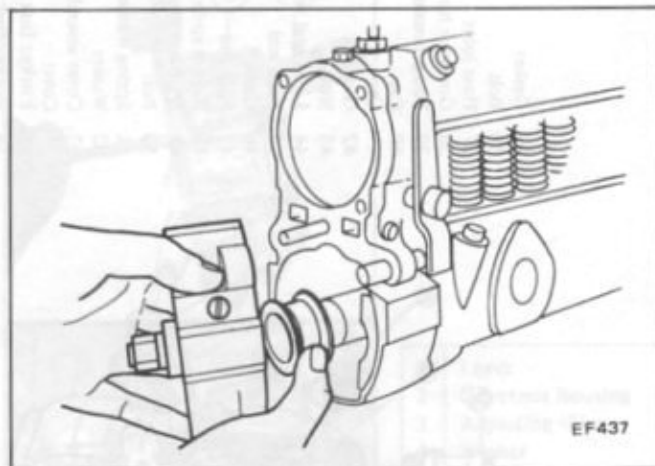

Fig. EF-92 Removing mechanical governor cover
4. Pull out the push rod. (Refer to Figure EF-92.)